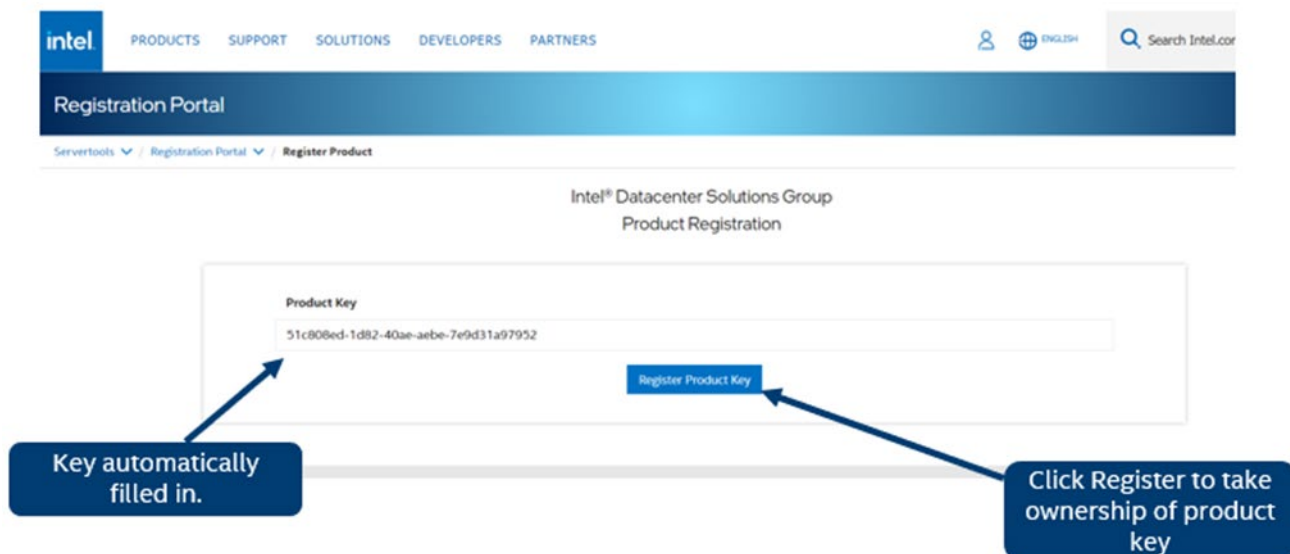

Figure 53. Register Key
- On the Registration Screen, Click the “Register Product Key” button to register the pre-entered license key number. (see Figure 53)